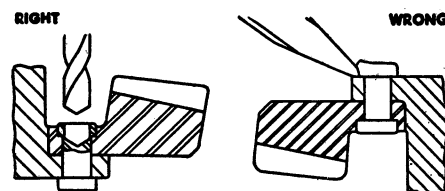

Fig. 10 Removing gear rivets
8. Remove short bolts or rivets and separate gears from case. In removing rivets, do not chisel them off as this will elongate the holes in the flange. To remove rivets properly, carefully center-punch rivet in the center of the head. Use a drill $\frac{1}{2}$ " smaller than the body of the rivet to drill through the head, Fig. 10. Press out rivets.